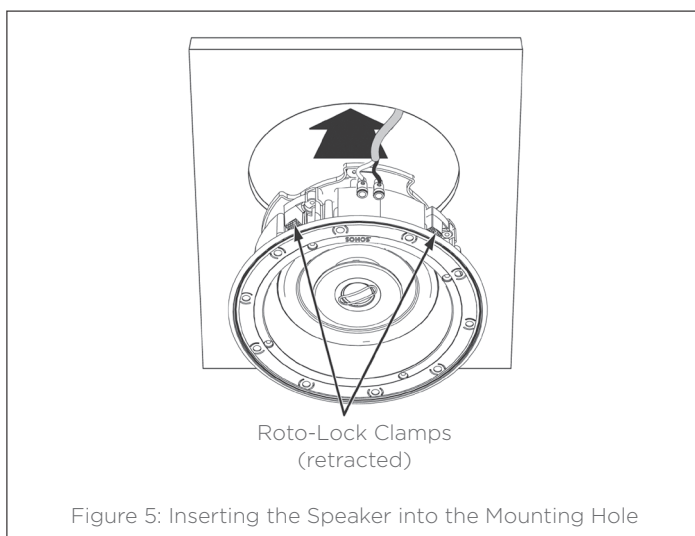

Figure 5: Inserting the Speaker into the Mounting Hole
3. Make sure all the Roto-Lock toggle feet are retracted so that they are tucked within the mounting hole's border. Insert the speaker into the hole in the ceiling (see Figure 5). The Roto-Lock system can accommodate a ceiling material thickness of 1-1/4" (32mm) with the toggle foot cap removed the system can accommodate a ceiling material thickness of 1-7/8" (48mm).